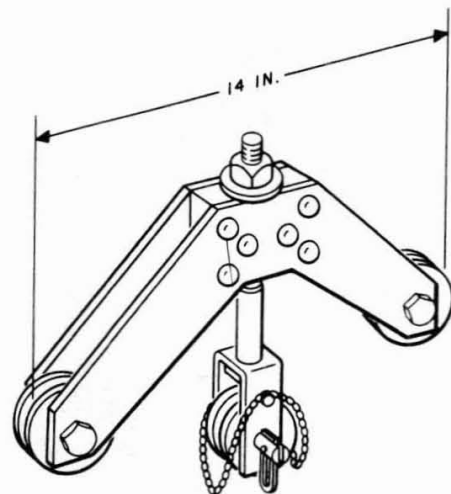

Fig. 5—B Slack Puller
**3.05** The frame of the B slack puller (Fig. 5) is V-shaped rather than oval and the two ends which support the grooved rollers are neither rounded nor beveled. The screw assembly consists of a machine bolt, a nut, a shackle with a grooved roller, and a shackle pin. The roller and pin are